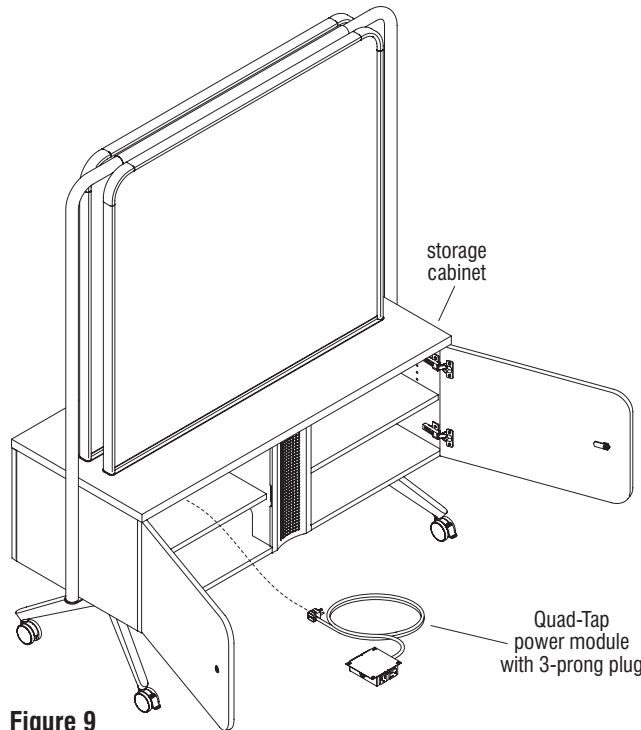

Figure 9
1. Open the doors on the storage cabinet if not open already (Figure 9).
2. Position the Quad-Tap power module underneath the top of the storage cabinet at the desired location. Assure that the power cord can be routed easily to a power source (Figure 9).
3. Using the Quad-Tap power module as a template underneath the top of the cabinet, align the unit straight, and at least a 1 1/4" back from the cabinet edge, then mark the four mounting hole locations and move the unit away (Figure 9).